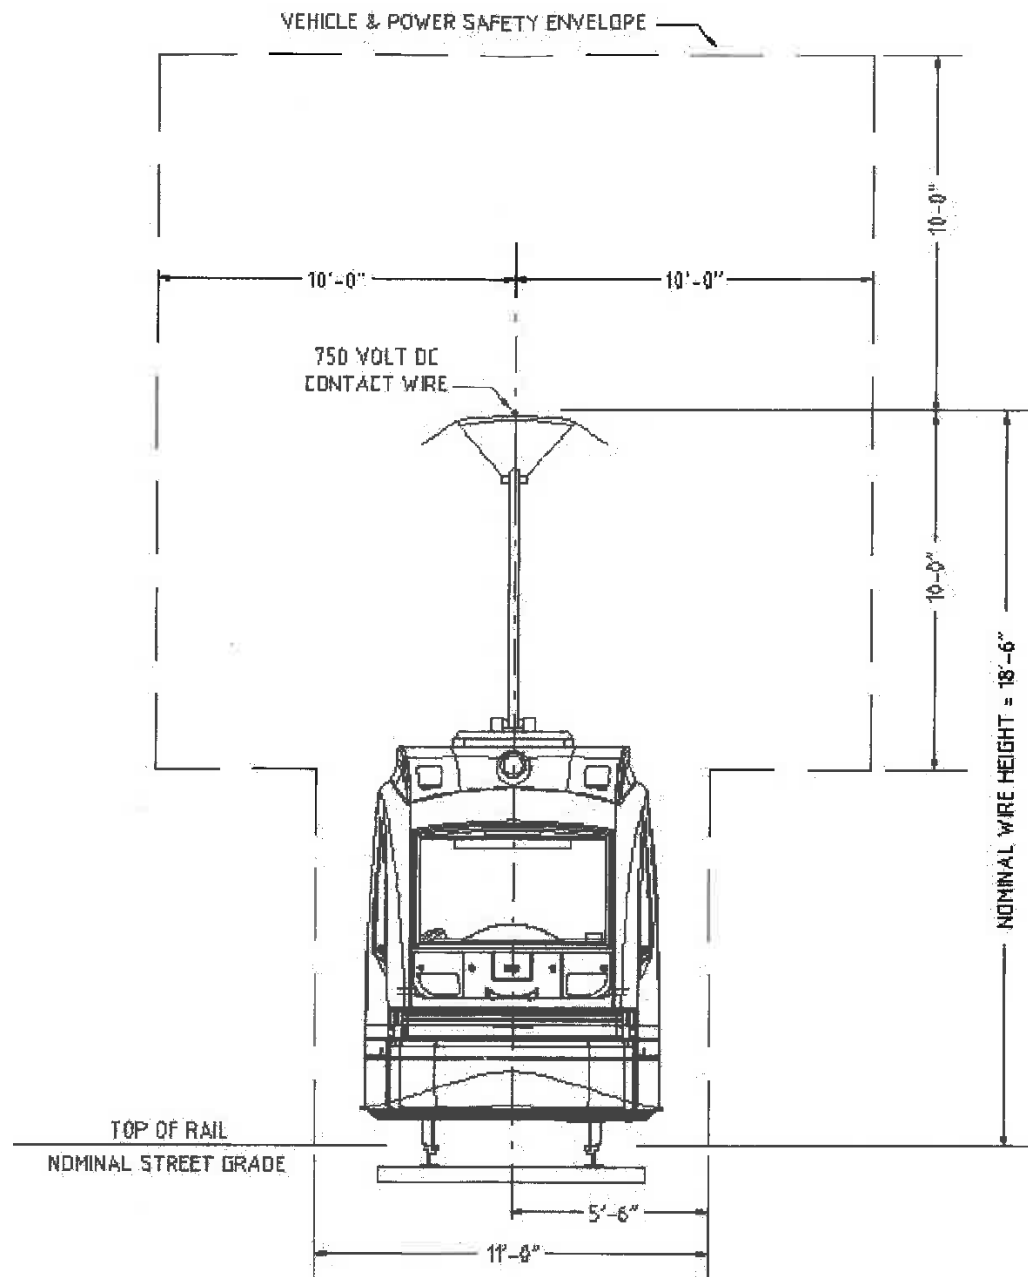

FIGURE 1 Vehicle and Power Envelope Diagram
1. Is Any Permit Work being applied for within the Figure 1-Vehicle and Power Envelope Attached, even for a moment? (Yes / No) – circle one
2. If the answer to Question 1 is Yes, will the only violation of the Figure 1-Vehicle and Power Envelope be temporary passing through for work described above (e.g for deliveries)? (Yes / No) – circle one